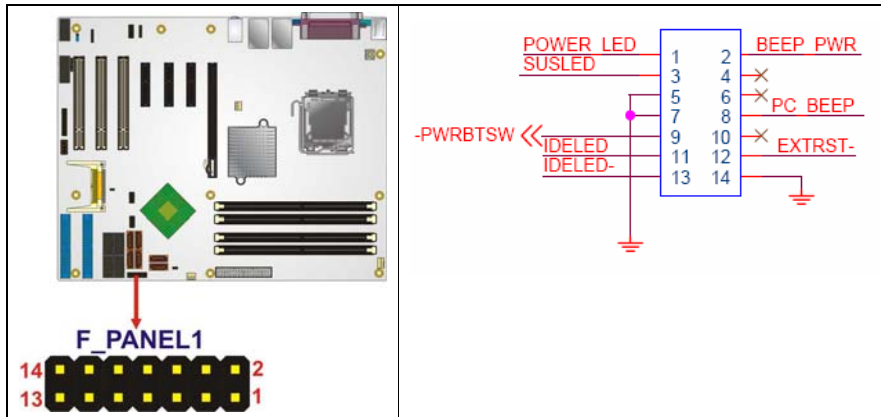

Figure 4-10: Front Panel Connector Pinout Locations (14-pin)
- CN Location:** See Figure 4-10